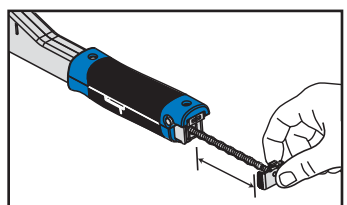

Figure 5
- To determine the amount of staples presently in the magazine, remove the staple pusher. Then, lightly reinsert the staple pusher until it first gives a stopping resistance. The visible part of the staple pusher projecting out the back gives an indication as to the amount of staples already in the magazine. See figure 5.